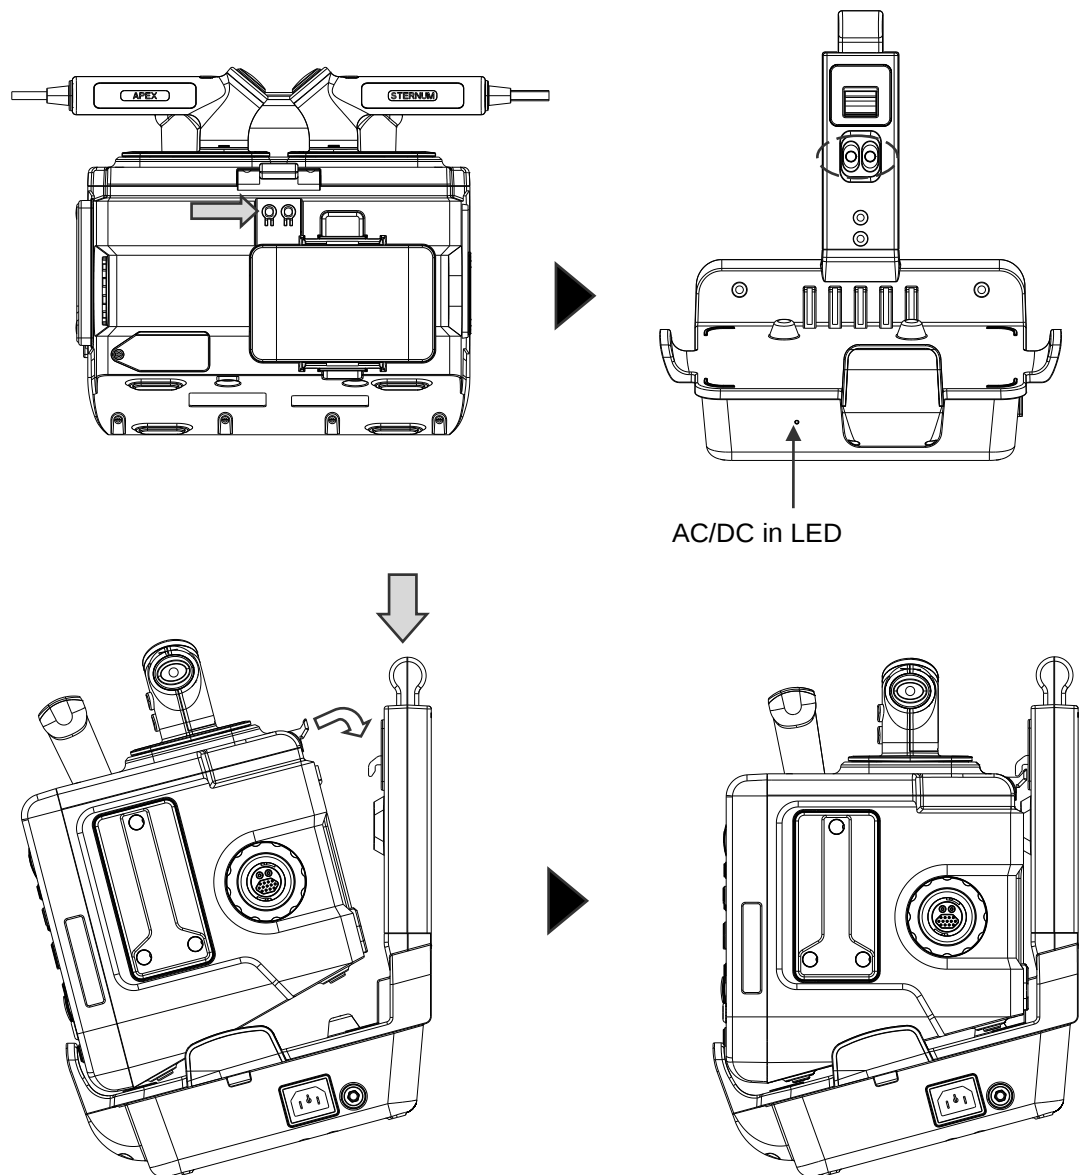

Figure 9. Cradle installation
2. Set the defibrillator/monitor as Figure 9.